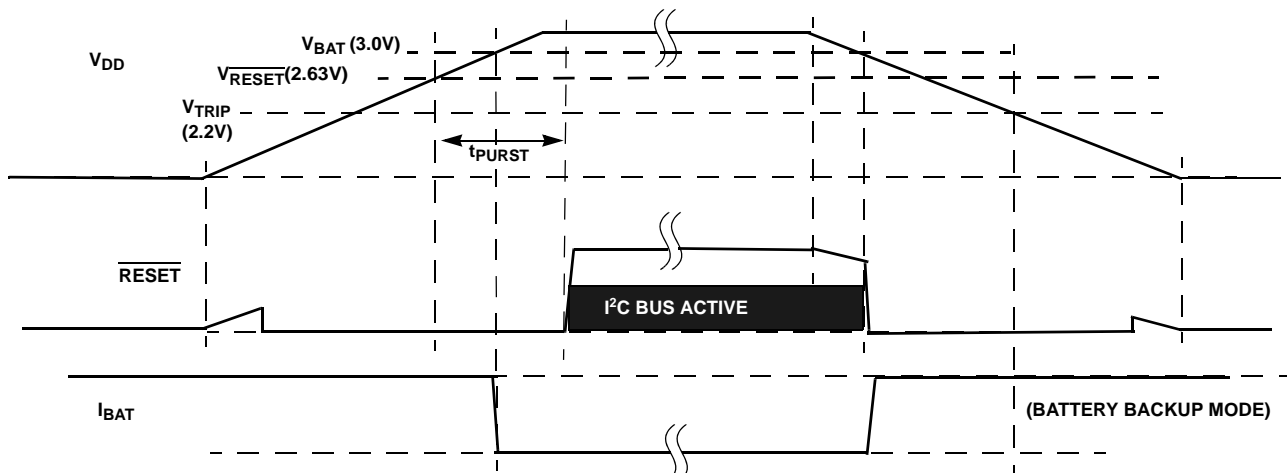

FIGURE 30. RESET OPERATION IN MODE D
- Mode D - In this mode, the selection bits indicate switchover to battery backup at $V_{\text{DD}} < V_{\text{BAT}}$, and no I²C communications in battery backup. This mode is unique in that there is I²C communication as long as V_{DD} is higher than V_{RESET} or V_{BAT} , whichever is greater. This mode is the safest for guaranteeing I²C communications only when there is a Valid V_{DD} (see Figure 30).